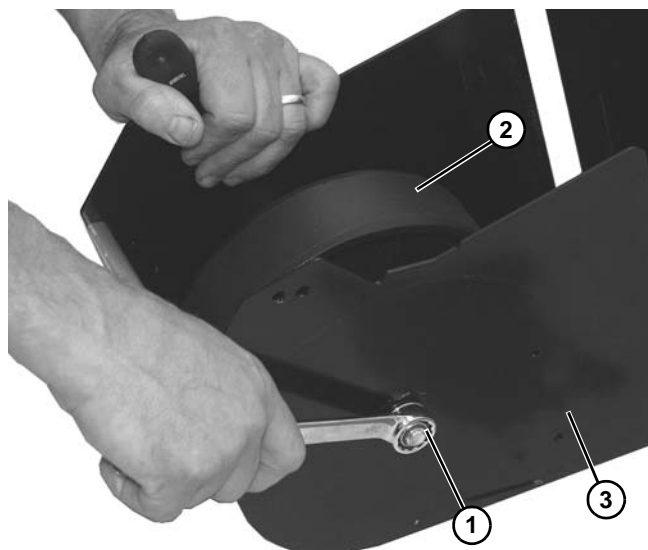

Figure 149
3. Use two wrenches to remove nut (**Figure 149, item 1**) on bolt securing wheel (**Figure 149, item 2**) onto weighted take up assembly housing (**Figure 149, item 3**).